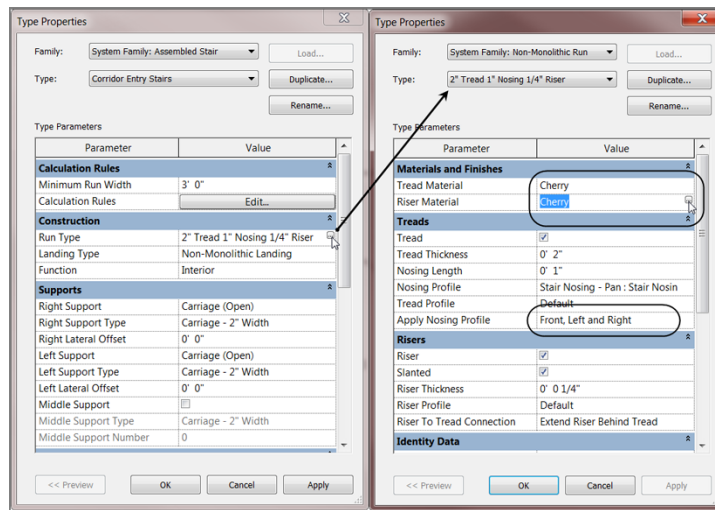

FIGURE 10.43: Customizing the stairs
18. Add Mahogany as the material to the Carriage - 2" Width. Your Properties dialog should look like the one shown in Figure 10.43.